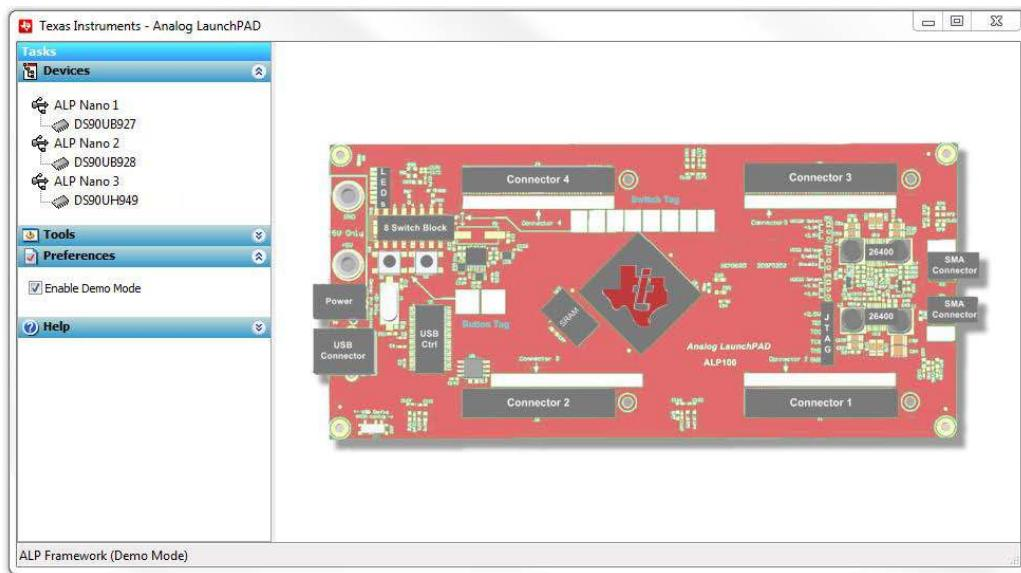

Figure 1-20. ALP in Demo Mode
2. Check to make sure the software starts with only “DS90UH949” in the “Devices” drop-down menu. If there are more devices then the software is most likely in demo mode. When the ALP is operating in demo mode there is a “(Demo Mode)” indication in the lower left of the application status bar as shown in Figure 1-20.